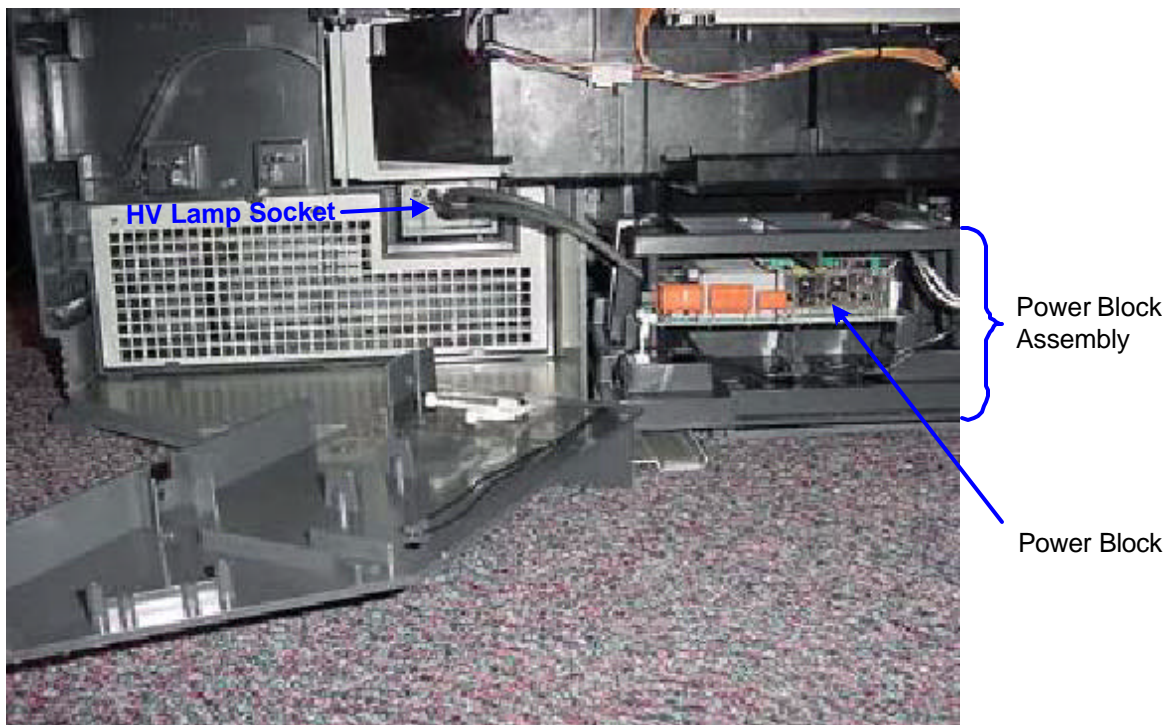

FIGURE 27-3 - HV LAMP CONNECTOR
DANGER: There is High Voltage at very High Current, dangerous enough to cause **Death On Contact**. Keep away from the Power Block and lamp socket when the TV is turned ON (see Figure 27-3). Follow the repair procedure closely and be aware that the **HV periodically turns ON automatically**.
From the back of the TV set, the Power Block is located at the bottom center. Figure 27-3 shows the Power Block (right) and its HV wires terminated at the lamp socket (left).
1. Remove the two screws from the HV socket as shown in Figure 27-3.